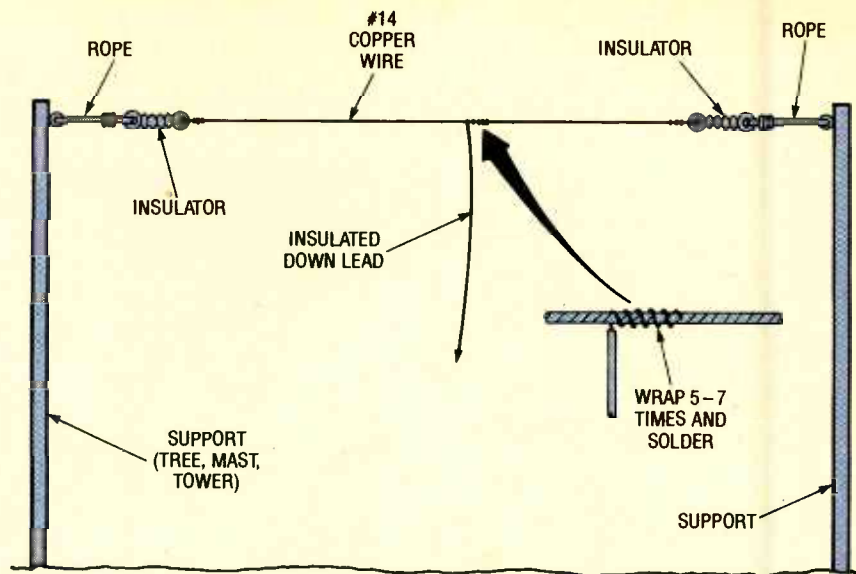

Fig. 1. The Tee antenna is a length of wire 40 to 100-feet long that is fed at the center by another wire, called the downlead.
**Tee Antennas.** The Tee antenna (shown in Fig. 1) is especially suited to shortwave listeners, although ham operators have used them. The Tee antenna is a length of wire 40 to 100-feet long that is fed at the center by another wire, called the downlead. The antenna element can be bare, but the downlead should be insulated 12-, 14-, or 16-